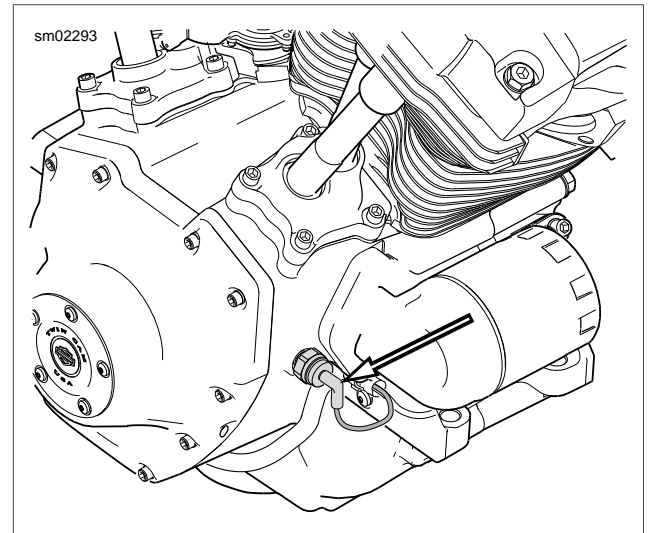

Figure 3-14. Oil Pressure Switch
- See Figure 3-14. Remove oil pressure switch from crankcase. See 8.23 OIL PRESSURE SWITCH.